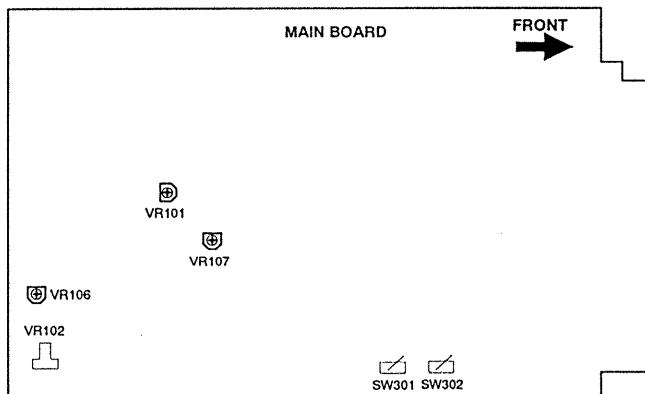

Figure 4-1 Location of on Main board
1. Input a cross hatch pattern in 93.75KHz (1600X1200) mode and adjust VR101 on the main board (see figure 4-1 for approximate location) so the high voltage is in the range 28kV~30kV the set will shut down.
Input a raster pattern (video OFF) in primary mode and push the external brightness control button to maximum. Adjust VR102 (see Figure 4-1 for approximate location) so that the voltage of G1 read on a digital multimeter is -45V±1.
3. Before carrying out white balance adjustment, make sure that the VR106 (see Figure 4-1 for approximate location) position shall be turn counterclockwise to the end (ABL no action).
4. Before carrying out white balance adjustment, make sure that the internal contrast VR107 (see Figure 4-1 for approximate location) shall be turn to the center position.